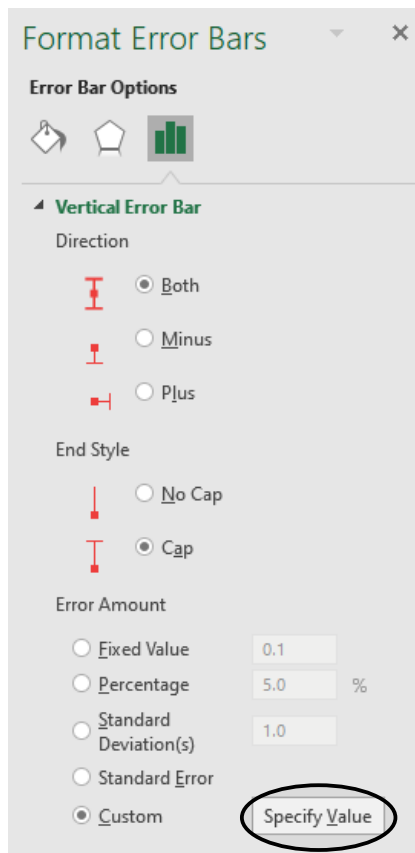

Figure 19: Format Error Bars toolbar with **Custom** option selected and **Specify Value** box circled
Open the **Format Error Bars** menu by clicking the green plus, then pressing the > button that appears to the right when hovering over the **Error Bars** box. Click the **More Options...** button from the new menu that opens. Both the horizontal and vertical error bars can be edited independently by switching between **X Error Bars** and **Y Error Bars** in the **Error Bar Options** drop-down menu. The **Direction** menu allows for the error bars to go in both the positive and negative directions, or in only one of them. There are **five (5)** different ways in excel to input the desired values of error bars as seen in Figure 19. **Fixed**